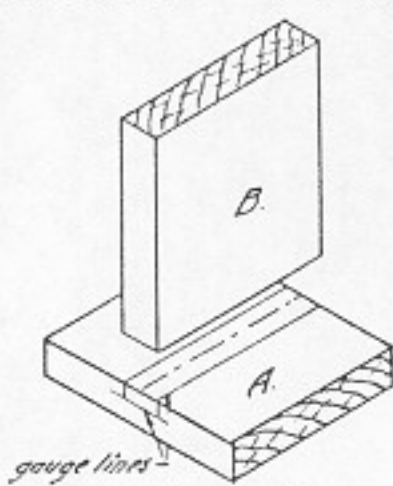

Fig. 180. Layout of dado joint.
5. A line is squared across one of the two boards, A, in the center. A dado always goes *across* the grain and never *along* the grain. Half the thickness of the other, B, is laid out to each side of this center line, and lines are squared across and down both sides with a knife or fine pencil point (Fig. 180). The accuracy of the measurements is tested by placing B perpendicularly on A. The depth of the dado is gauged, which is usually less than half the thickness of the stock.